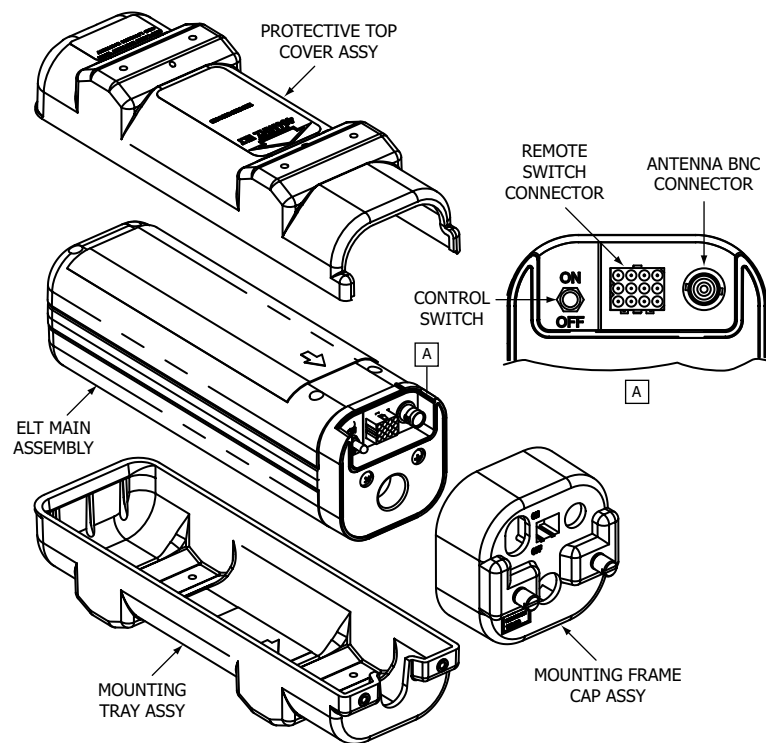

Figure 2. C406-1 Series ELT and Mounting Frame Assembly
- (1) The C406-1 Series ELT main assembly is housed in a high impact, fire resistant, polycarbonate plastic case, which is enclosed in a protective mounting frame assembly made of similar material. See "Figure 2. C406-1 Series ELT and Mounting Frame Assembly".